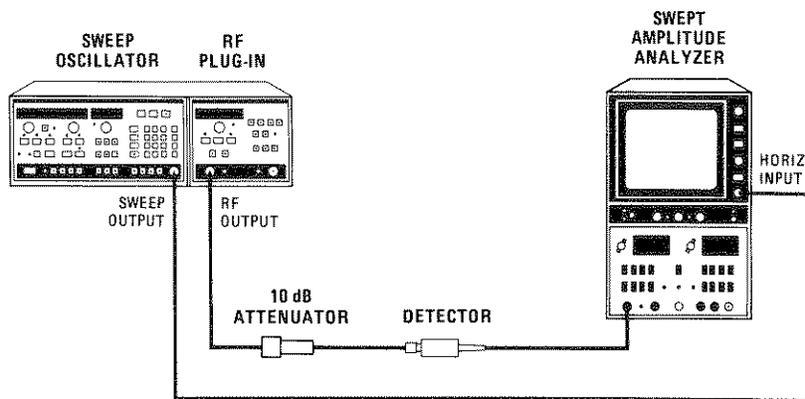

Figure 5-23. Internal Leveling Adjustment Test Setup
1. Connect equipment as shown in Figure 5-23, with the 8755C monitoring the RF output. Select 8350A  $\square$  MOD. Sweep the full range of the Plug-in.